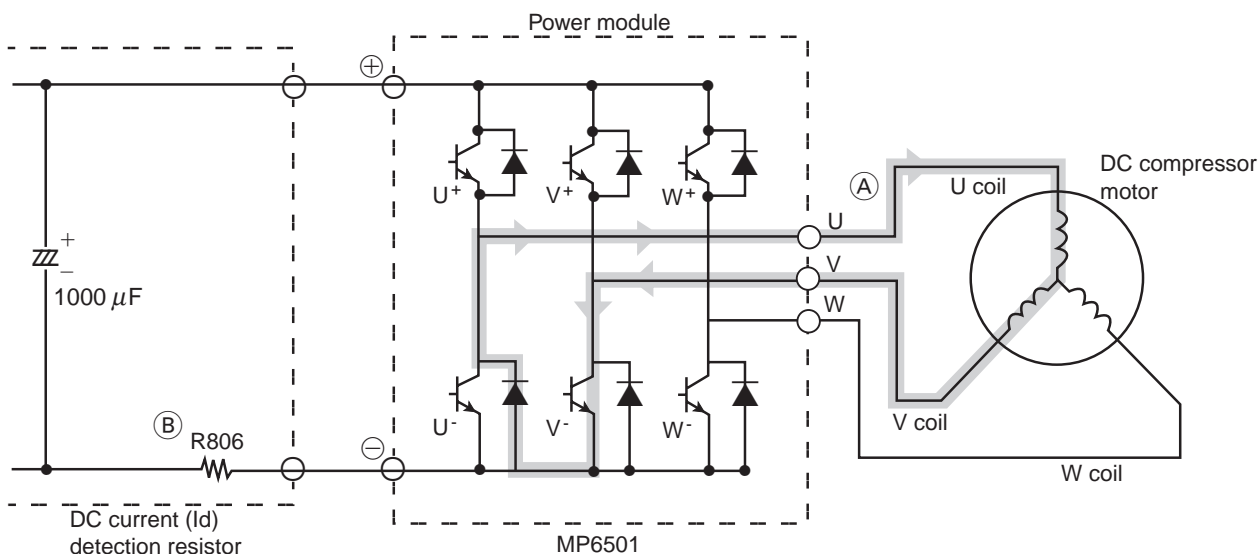

Fig. 3-4 Power module circuit (U⁺ is ON, V⁻ is ON)
When U⁺ transistor is OFF: (by inductance of motor coil) U coil → V coil → V⁻ transistor → Return diode → Point ① (Fig. 3-4)